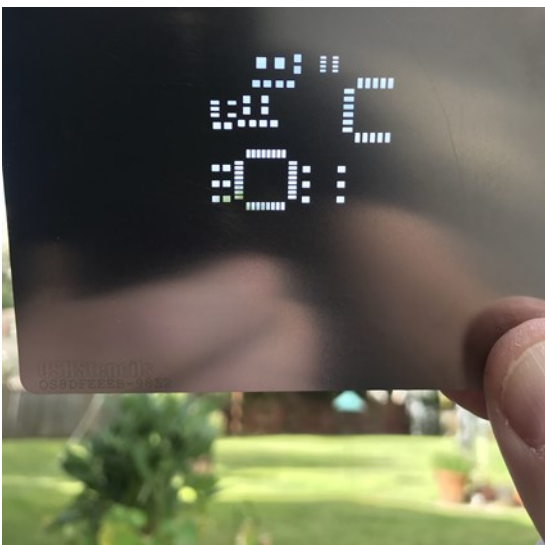
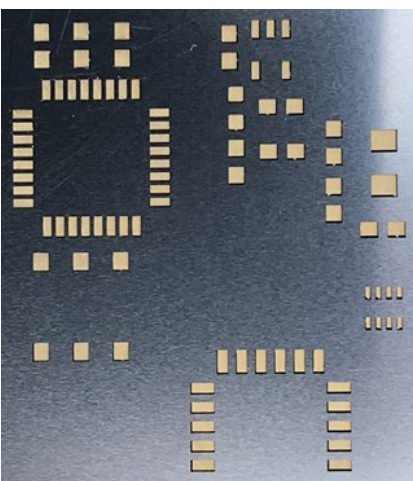

Figure 9 - A Steel Stencil
Figure 10 - Stencil Aligned Over PCB
6. Use the stencil (Figure 9) to “silkscreen” solder paste onto the bare circuit board. See Figure 10.
stencil is the same size as your circuit board and has little holes in it that correspond to the solder pads on the PCB which will hold your components. See Figure 9.
You line up the holes in the stencil with the solder pads on the PCB (see Figure 10) and apply the paste to the top of the stencil. Then when you remove
You place the stencil on top of your PCB (See Figure 10 again) and then “squeegee” the solder paste across the stencil using a ruler or small plastic card (supplied free by the OSHStencil people with every order!). Lift the stencil and the board is pasted. Excess solder paste can be saved and used again.